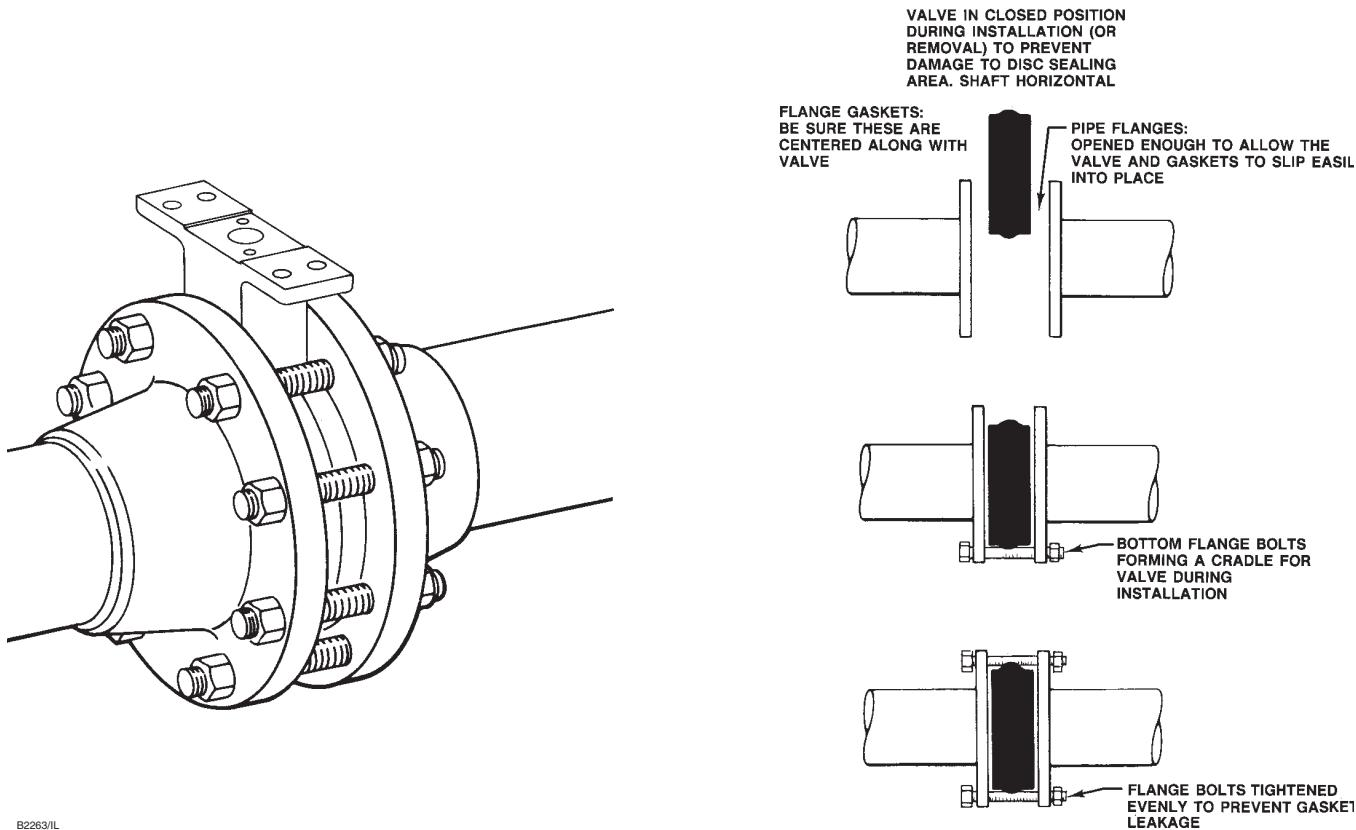

Figure 3. Proper Installation Procedure
- See figure 3. Install the lower flange bolts first to form a cradle for the valve.
7. Before removing the valve from the pipeline, make sure the valve disc is closed. See figure 3. Rotate the shaft clockwise until the disc makes contact with the internal stop or actuator travel stop (if still installed). The "S" stamped on the shaft should be aligned with the "S" on the valve body.